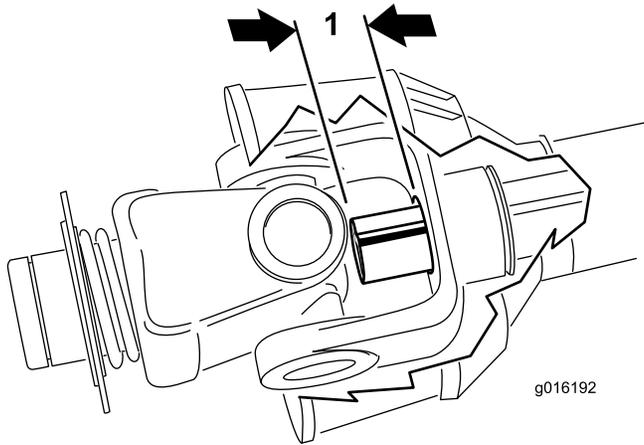

Figure 16
9. Slide the PTO shaft tubes together until they are fully collapsed. Verify that the **inside** tube does not protrude into the cross and bearing section of the outer tube (Figure 16). If this happens, **more** will have to be cut off the inside tube, to correct the problem. Proceed to next step.
10. Measure the distance the inside tube protrudes into the cross and bearing section of the outer tube (Figure 16). Add this distance to the dimension attained in step 8.